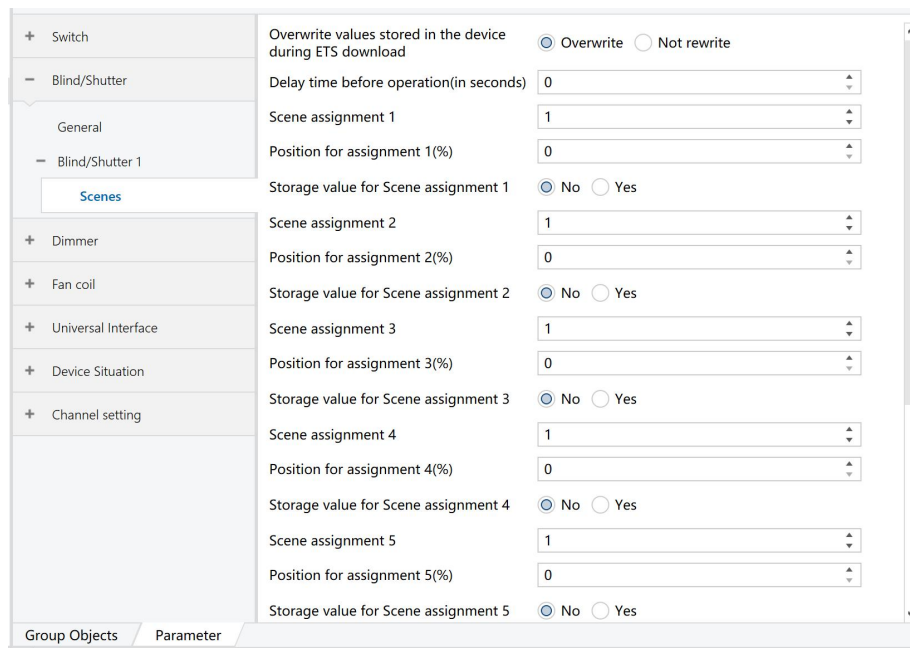

Figure 6.2.3
8-bit scene control	<p>Scene control function, optional options: Enabled, Disabled, when "Enabled" is selected, the "scene" option appears on the corresponding channel on the left side of the interface, click "scene", the interface switches to the same as shown in Figure 6.2.3 above. Function configuration in the interface</p> <p>1. "Overwrite values stored in the device during ETS download" means overwriting the scene values stored in the device during ETS download, options: ① parameter Overwrite, ② parameter Not rewrite;</p> <p>2. "Delay time before operation" means the delay time before operation, the option is "1-127" seconds</p> <p>3. "Scene assignment 1-64" indicates the setting of the scene number, and the scene number can be set to 1-64;</p> <p>4. "Output Value" indicates the output value of the channel operation corresponding to the scene number, options: On, Off;</p> <p>5. "Storage value for Scene assignment X" indicates the scene learning function of scene number X, (X: 1~64), options: No, Yes. For example: when Channel 1 and Channel 2 select "1" in the parameter "Scene assignment 1[1-64]" and select "Yes" in "Storage value for Scene assignment 1", the communication object is group address 3/1/1 For example, after downloading data is completed, manually operate CH1 and CH2 on the execution module to be On, enter the group address 3/1/1 at the "Diagnosis" on the ETS, and then select "Learn" in "Value", Select "1" for the scene number and send it on the bus, then the scene number "1" will learn the status of actuators CH1 and CH2 On.</p>